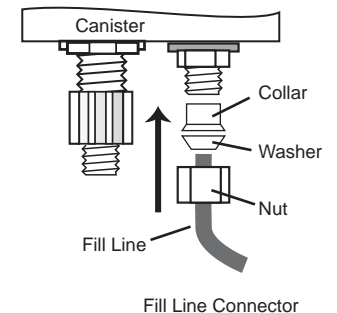

Figure 5
6) Return to the pole (from Step 1) and route the Fill Line so that it extends to the top of the pole. Cut the Fill Line at that point. (Save the excess tubing for Step 8.) Un-screw the Nut on the Fill Line Connector (Figure 5) and insert one end of the Fill Line through the Washer and Collar and then screw the Nut snugly back onto the connector.